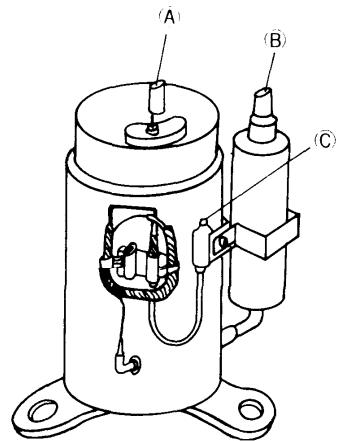

Fig. D-14
- 2) Three sections of the replacement compressor (A) (B) and (C) are sealed to avoid entry of dust and water. Remove this seals, then connect to the unit piping when replacing the compressor (See Figure D-14)